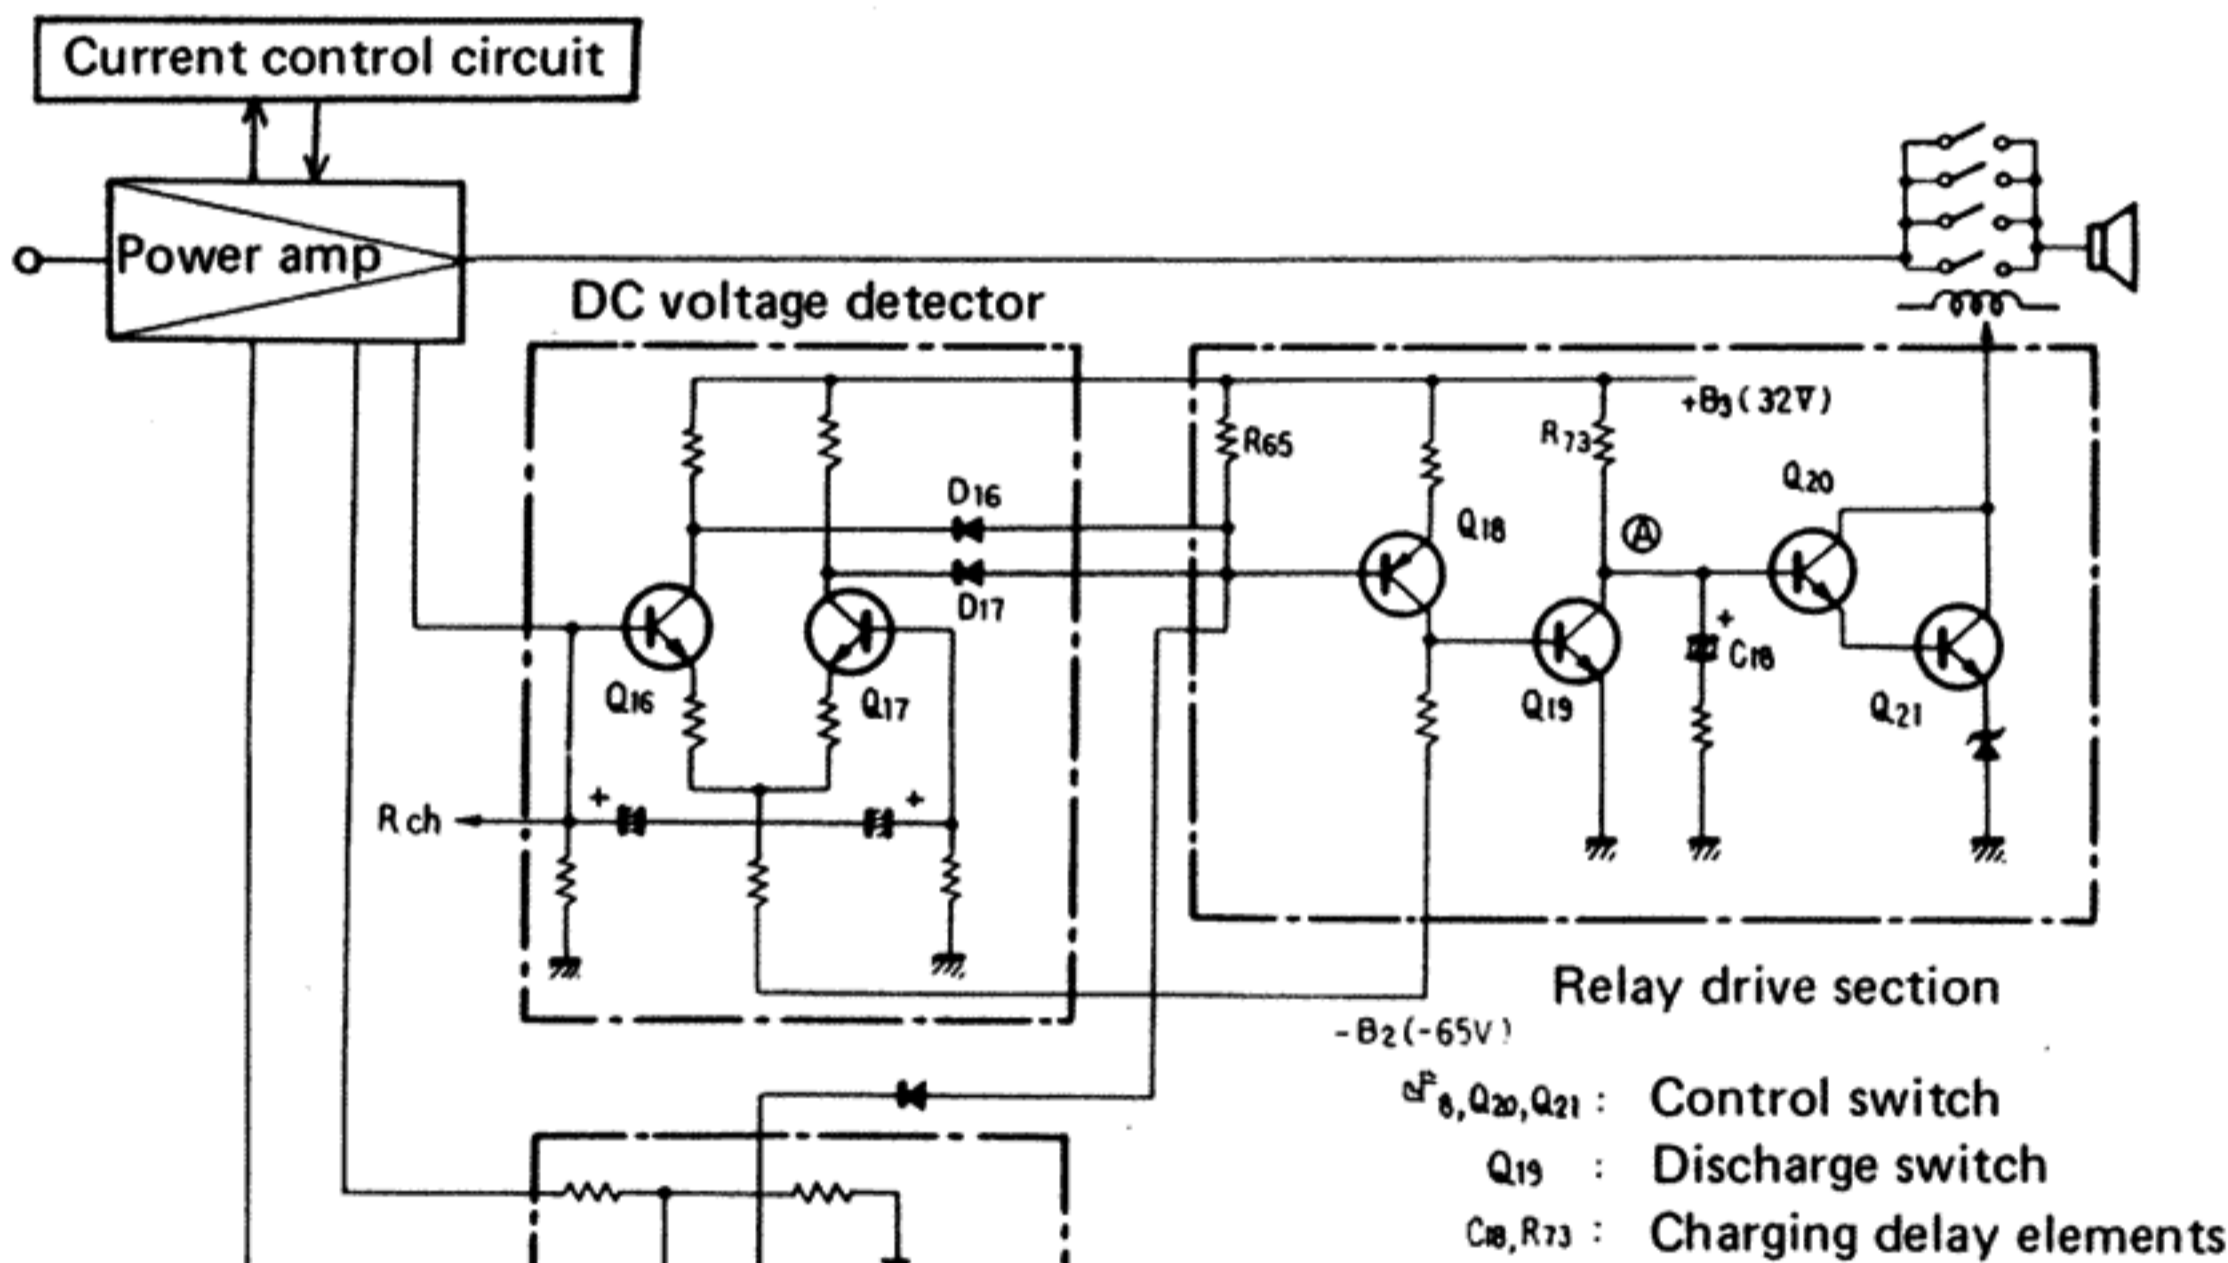

Fig. 2
4.2 PROTECTION CIRCUIT (Fig. 2)
A protection circuit is provided that automatically turns the output circuit on and off using a relay, to protect the amp and speakers. A four-circuit relay is employed. One of these relays is used for each channel and the contacts are connected in parallel for improved reliability. The Pioneer standard protection circuit consists of the three sections shown in Fig. 2.